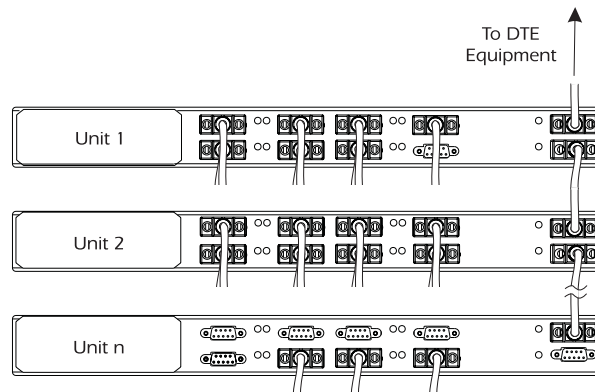

Figure 1: Example of a Cascading Setup for On-Demand-Only Operation
By cascading as many as four MasterSwitch Plus Expansion Units, you can manage power for up to 32 connected devices. To set up MasterSwitch Plus in a cascading configuration, refer to Figure 1 and see “Procedure for connecting multiple units (on-demand)” on this page.
Figure 1 shows an example of a cascading setup for an on-demand-only configuration.
- 3 Use the supplied daisy-chain cables (APC part number 940-1000) to connect the To UPS port of each MasterSwitch Plus to the Advanced port of the succeeding unit, as shown in Figure 1 on page 4.